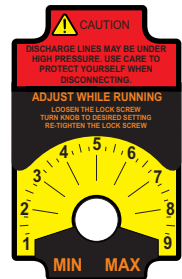

FIG. 5.1
5.1 Adjusting the Pump Output- Standard models (fig. 5.1) - The C-1500N flow rate can be adjusted within a range of 5% -100% of maximum output (20:1 turndown ration) by means of a mechanical, cam type mechanism. The mechanism adjusts the pump's stroke length to an infinite number of settings within the flow range. Because the pump's output is reduced by increasing the pressure of the system being injected into, the amount of suction lift, and the viscosity of the fluid being injected, the pump must be over-sized to allow for these factors. Sizing the pump to allow adjustment within the midrange is preferred to maintain accuracy. Consult the factory for individual pump model output curve data.